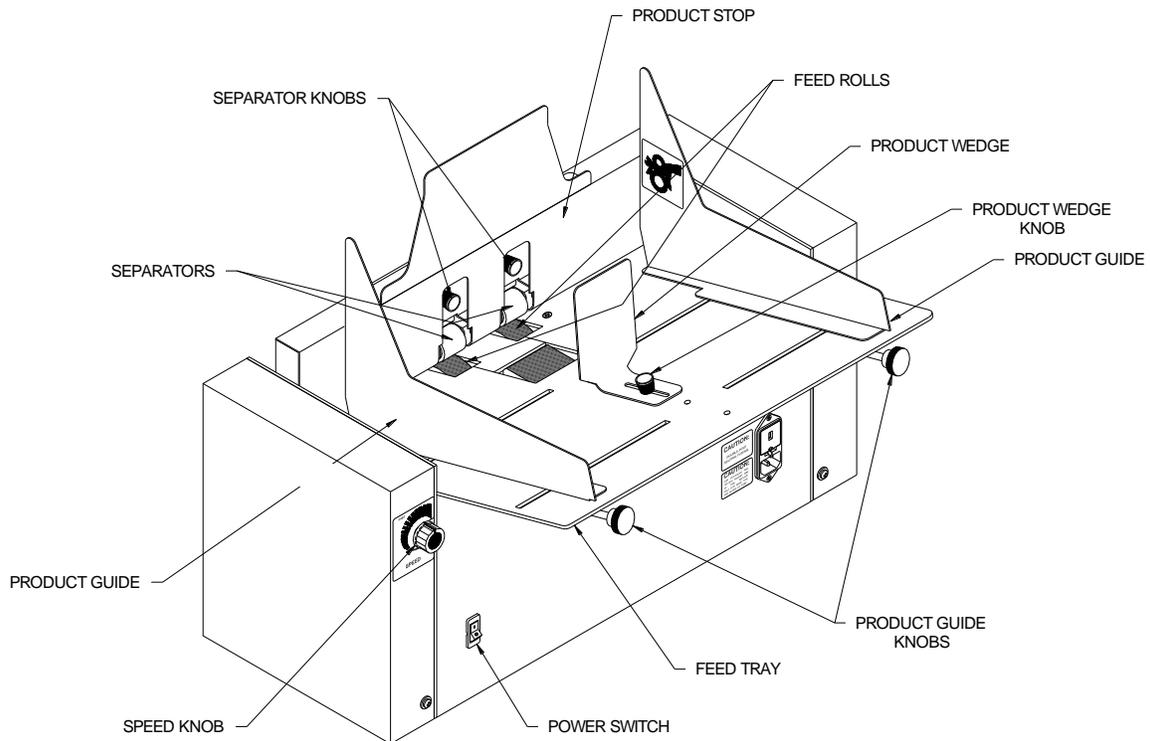

Figure 5.1 -- Operating the FD 260-10
1. Center the mail pieces with the FEED ROLLS (refer to **Figure 5.1**).